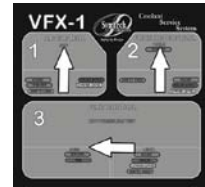

Figure 5
- 4) Turn FLUID CONTROL valve (#3) to the left, FILL (*RED*). New coolant will flow into vehicle’s cooling system until vacuum equalizes. Completion of this step is signified when new coolant flow ceases and vacuum gauge reaches “-3 ~ -5 inHg”. (*Fig 5*)